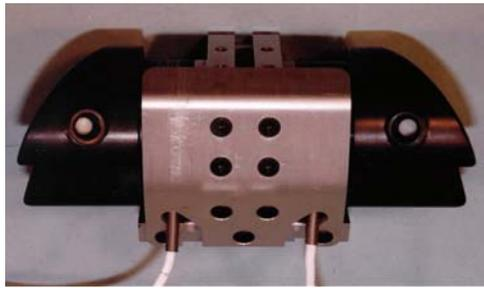

Figure 11.10- Top Plate assembled to Pelvic Box
8. Bolt the Top Plate (T1PLM213) to the top of the left and right load cell mounting plates, using nine #10-32 x 3/8" FHSCS {1/8}, as shown in **Figure 11.10**. The acetabular load cell wires must exit through the grooves at the rear of the top plate.